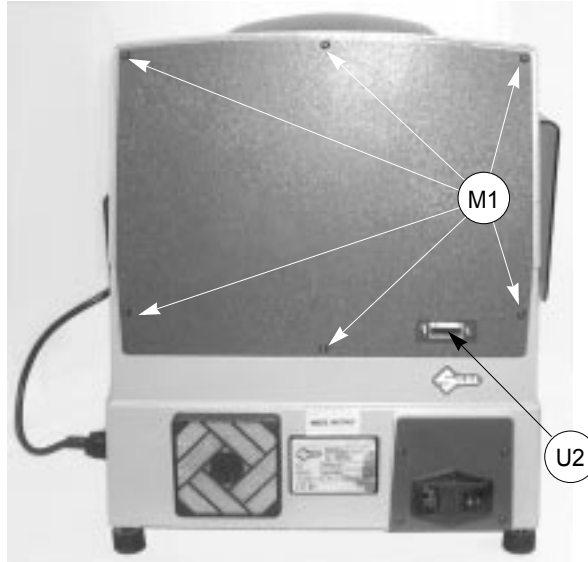

Fig. 53
- 2) remove the vacuum system's connector (U2) (fig. 53).
- 3) unscrew the 6 (M1) screws that secure the back panel (fig. 53) thus removing it.